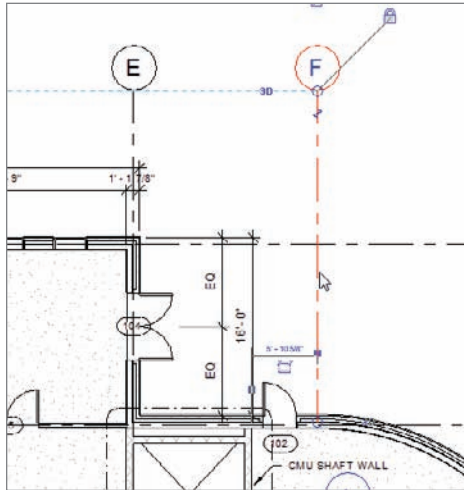

FIGURE 8.18 Adding grid F
9. Pick a start point at the endpoint of the radial wall where it intersects with the straight wall, as shown near the bottom of Figure 8.18.
10. Pick the second point in line with the adjacent grid bubbles (see Figure 8.18).